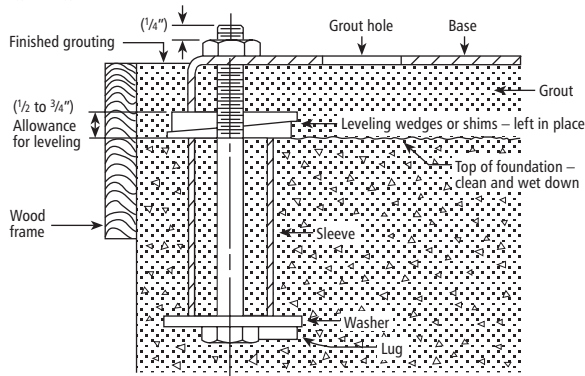

Figure 3
- It is recommended that the baseplate be grouted to a foundation with solid footing. Refer to Figure 3.